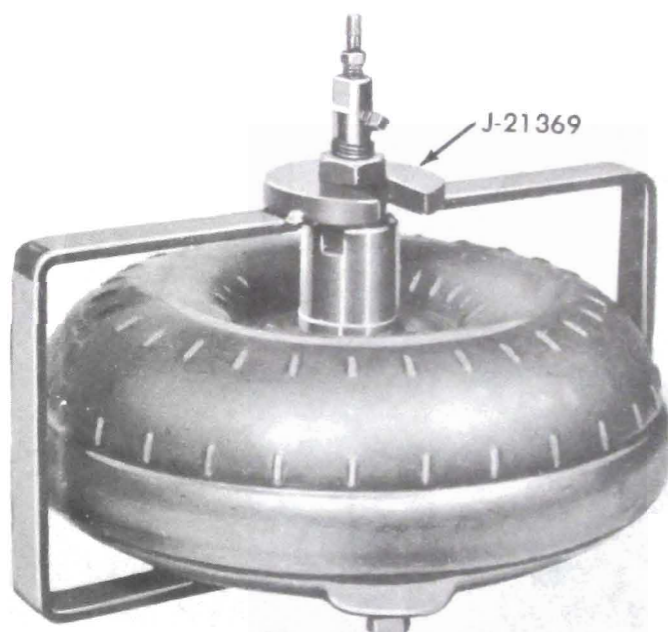

Figure 75-283
1. Install tool J-21369 and tighten. See Figure 75-283.